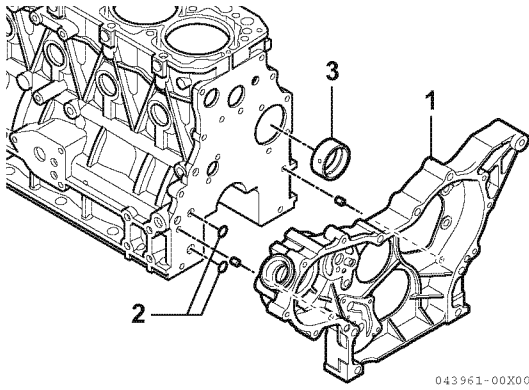

Figure 6-53
6. 3TNV88C - 4TNV86CT: Remove the O-ring (Figure 6-53, (2)) and dowels (Figure 6-53, (5)).